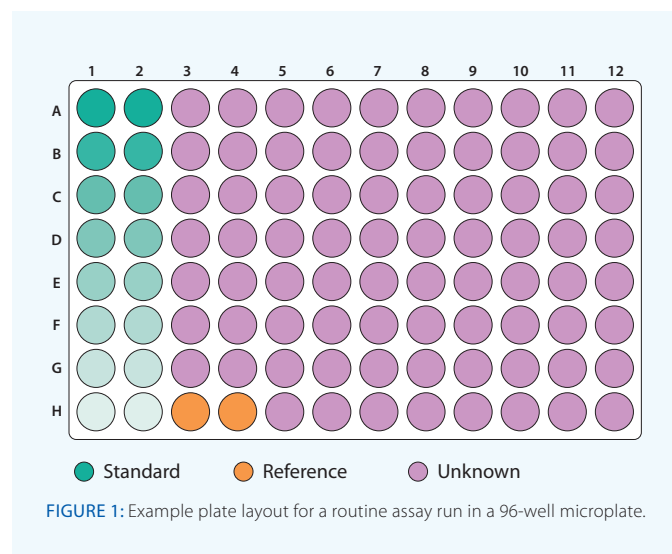

FIGURE 1: Example plate layout for a routine assay run in a 96-well microplate.
- 3 Transfer triplicates of the standards and the unknowns to a sample plate. It is recommended to organize samples in columns, from A–H. Fill at least one well with blank diluted matrix for reference subtraction during data analysis. An example plate map is shown in Figure 1.
- 2 Pipette standards, calibrators and samples into a black polypropylene microplate (see Figure 1 for a sample plate layout).
- 5 Set up a Basic Quantitation assay. An example plate map is shown in Figure 1. For details on how to set up an assay see the Octet Data Acquisition Software User Guide.